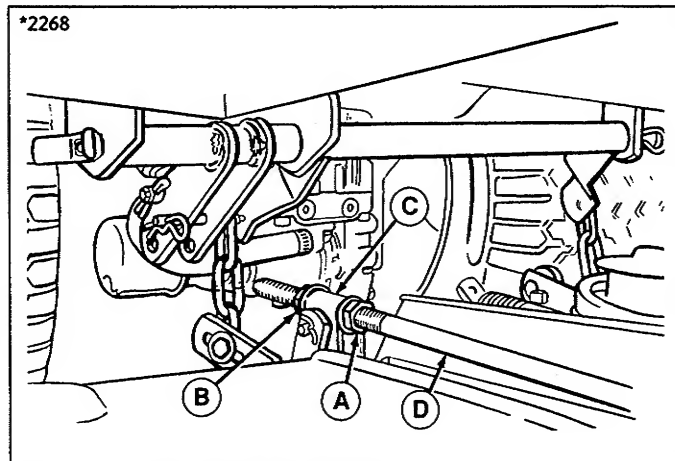

Figure 33. Front-To-Back Leveling
4. Turn the blades front-to-back. Measure the distance from the ground to front tip of center blade, and from ground to rear tips of left hand and right hand blades. Front tips should be $1/4"$ (6 mm) higher than rear tips. For adjustment, refer to figure 33.
- a. To raise front of mower deck, loosen front nut (A) and turn rear nut (B) against bracket (C) to shorten rod (D).
- b. To lower front of mower deck, loosen rear nut (B) and bracket (C) will move backwards to lengthen rod (D).
- c. Recheck measurement before tightening front nut (A) against bracket.